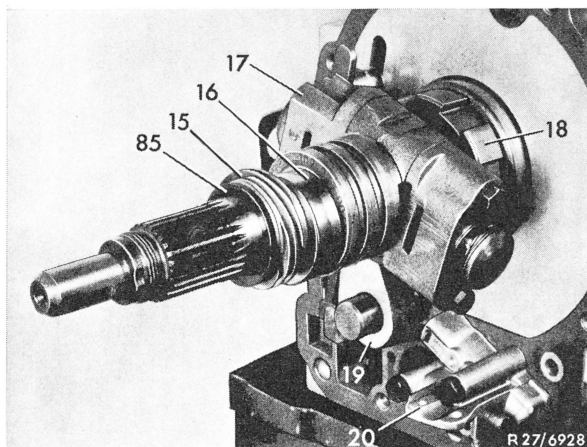
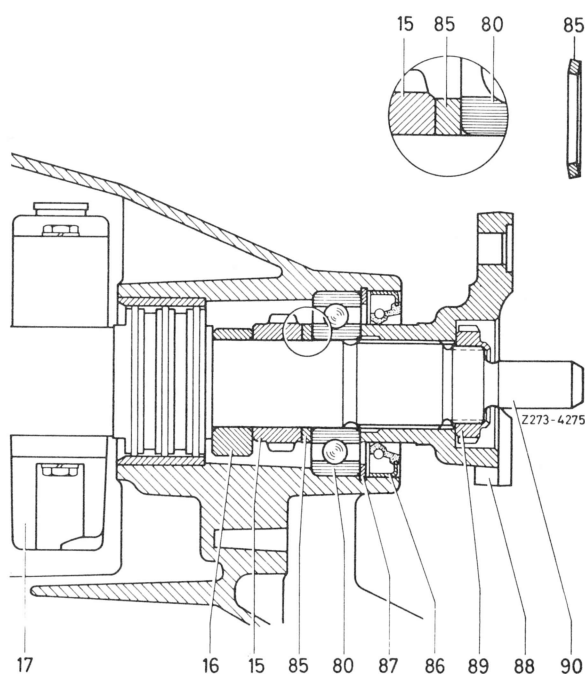

Fig. 1
Fig. 2
- 2 Remove plate spring (85), worm gear of tachometer drive (15), eccentric ring for secondary pump (16) and centrifugal governor (17) from output shaft (Fig. 1).
- 3 Attach centrifugal governor (17), eccentric ring for secondary pump (16), worm gear of tachometer drive (15) and plate spring (85) to output shaft (Fig. 1). The flange of the worm gear (15) should face the centrifugal governor and the curvature of the plate spring (85) should face the worm gear (Fig. 2).